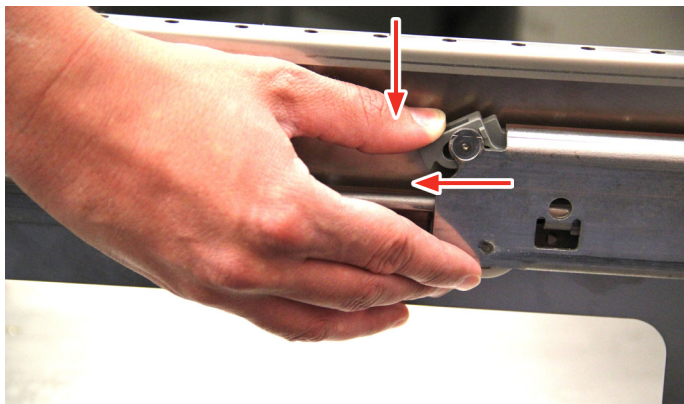

Fig. 15
3. Locate drawer lock on the front of each drawer slider. Push down and pull the drawer locks toward front of the drawers until they pivot upward (Fig. 15).